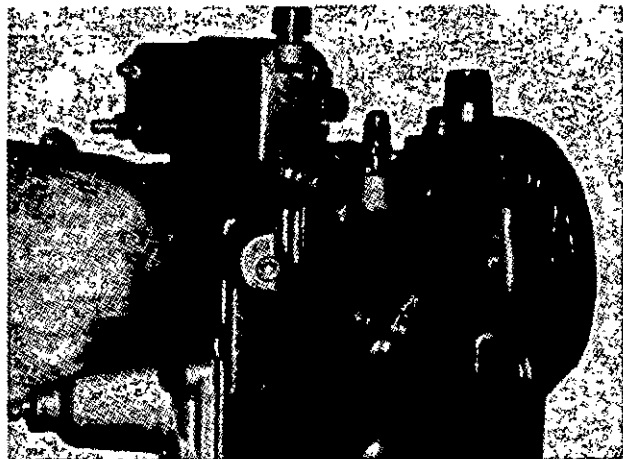

Fig. 2-15, (F5302). Install the AFC bellows and piston assembly.
15. Install the plunger/piston assembly into the barrel. The bellows tab goes up, Fig. 2-15.